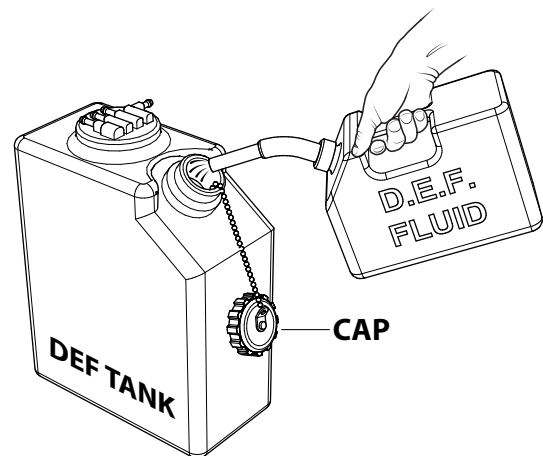

Figure 37. DEF Tank Filling
1. Remove the filler cap from the DEF tank (Figure 37),